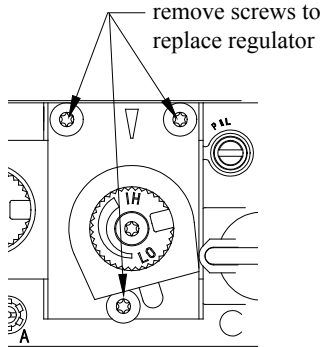

Figure 6. Replacing the regulator on the Sit Nova 820 gas control valve.
- The SIT Hi/Lo gas control valve supplied with this appliance has a removable regulator. To replace it, remove the three screws as shown in Figure 6, and install the new regulator supplied with this kit.